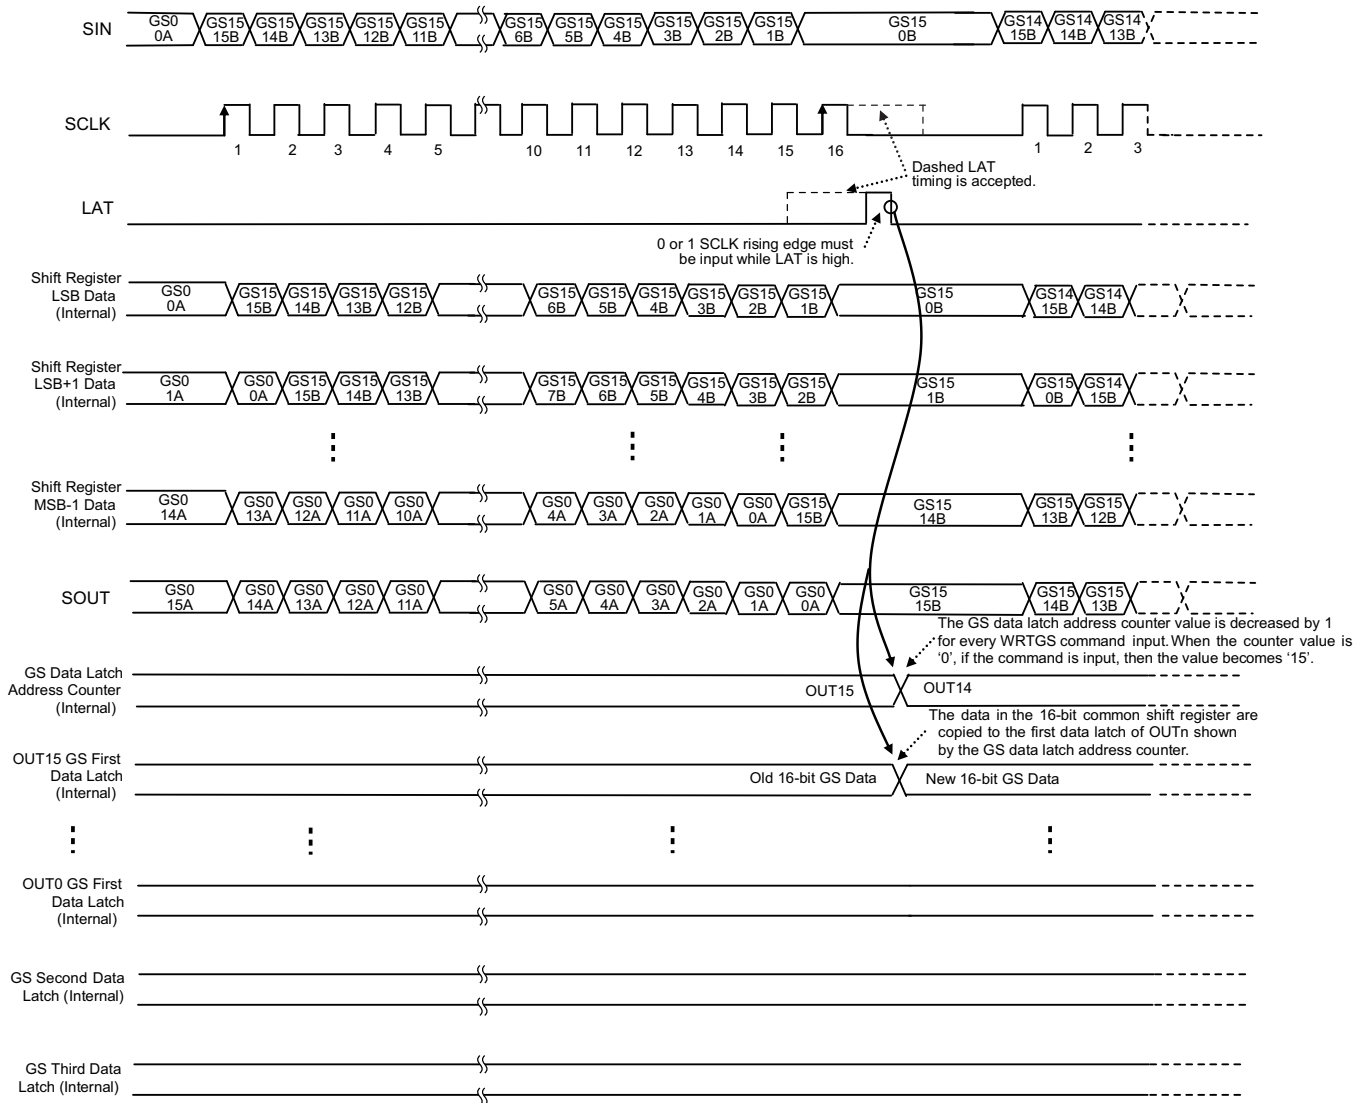
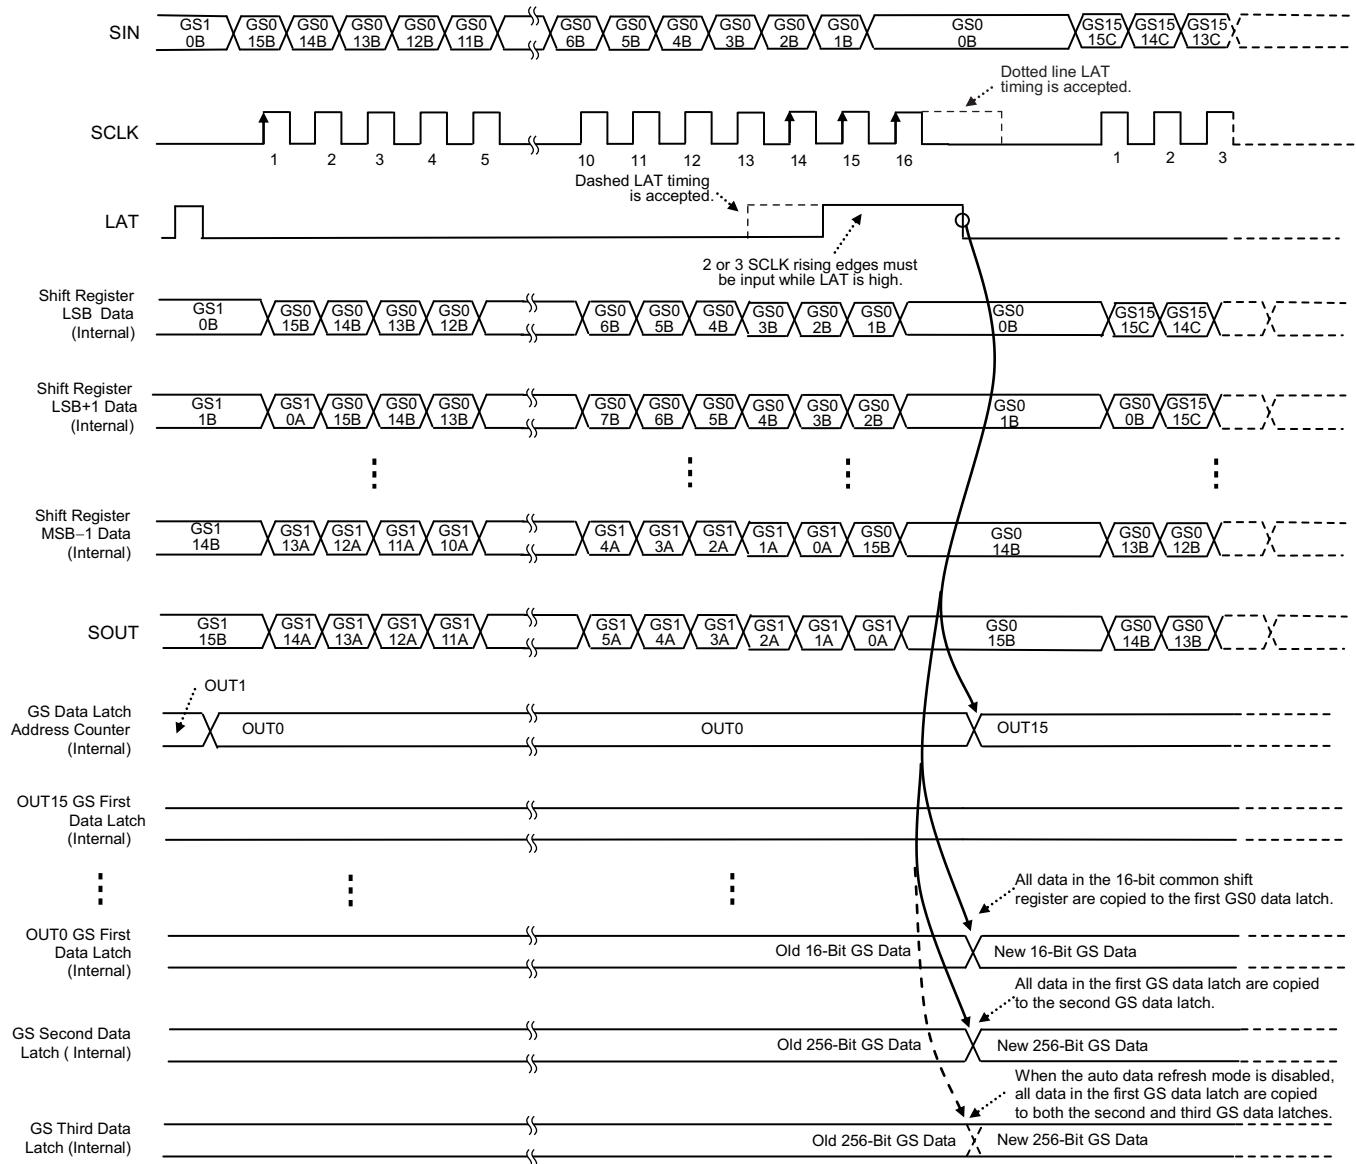

Figure 22. 16-Bit GS Data Write (WRTGS) Command
Figure 23. 256-Bit GS Data Latch (LATGS) Command (LATMODE = 0)
The first, second, and third grayscale (GS) data latches are each 256 bits long, and set the PWM timing for each constant-current output. The on-time of all constant-current outputs is controlled by the data in the third GS data latch. The 16-bit data are copied to the first GS data latch indicated by the GS data latch address counter when the WRTGS command is input. The 256-bit GS data for OUT_n in the first data latch are copied to the second GS data latch when the LATGS command is input. The 256-bit data in the second data latch are copied to the third GS data latch when the 65,536th GSCLK occurs with the XRFRESH bit in the FC data latch set to '0'. When the XRFRESH bit is '1', the 256-bit data in the first data latch are copied to the second and third data latch at the same time. When the device powers up, all constant-current outputs are forced off until GS data are written to the third data latch. The GS data write sequence is shown in Figure 22 and Figure 23.